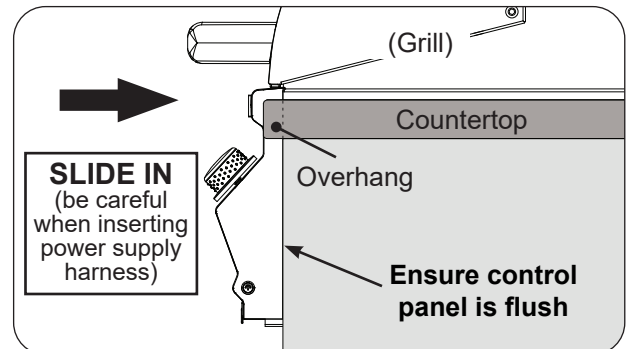

Fig. 28-3 Slide in unit (ensure flush)
- Ensure the unit fully slides in so that the control panel sits flush against the enclosure front wall. See the COUNTERTOP OVERHANG section in ENCLOSURE REQUIREMENTS for details. (See Fig. 28-3).